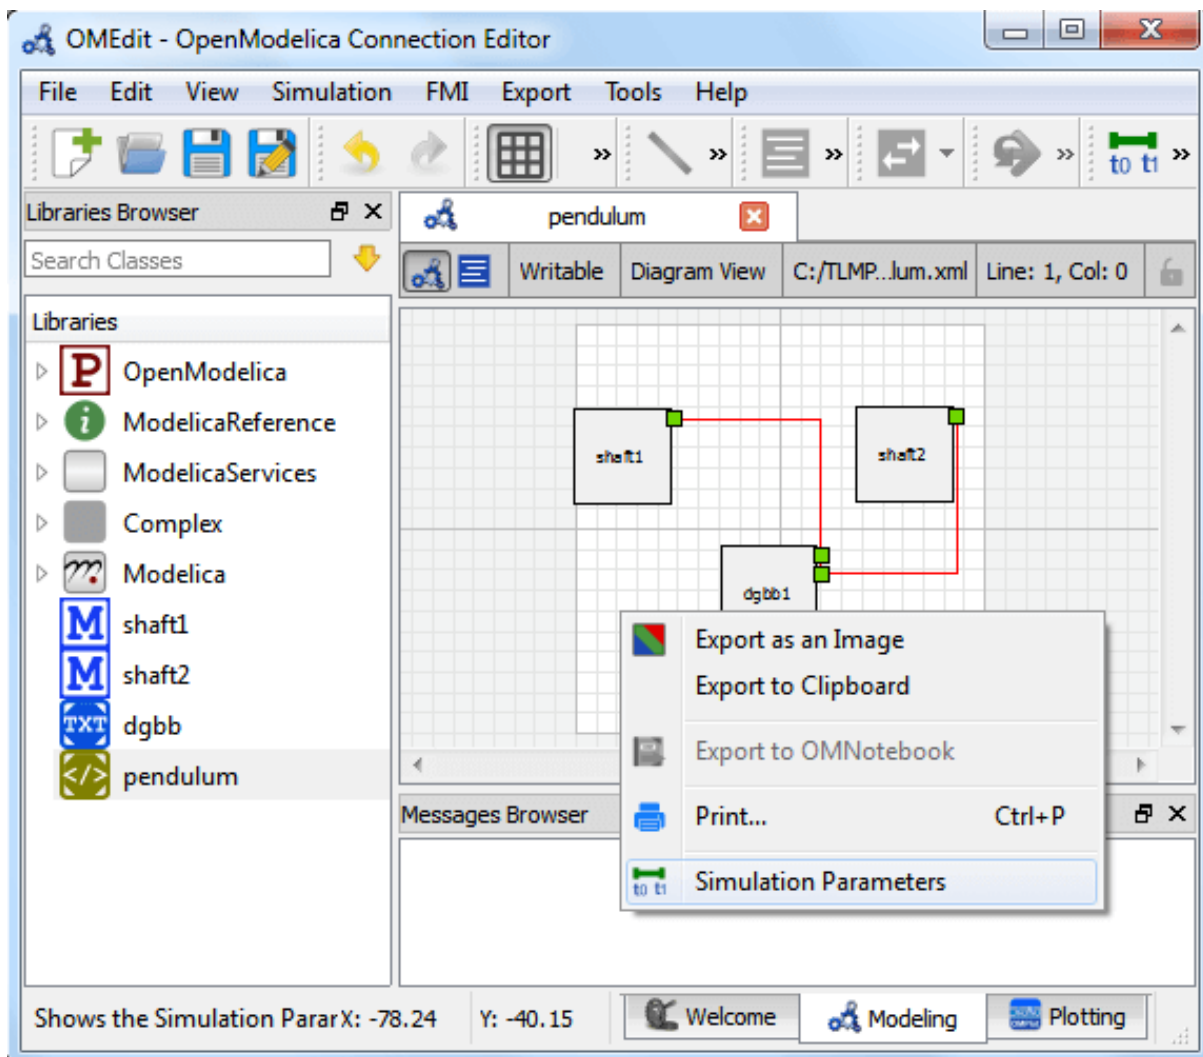

Figure 7.16: Changing Co-Simulation Parameters from the Popup Menu.
- Right click an empty location in the Diagram View of the composite model and choose **Simulation Parameters** from the popup menu (see Figure 7.16)